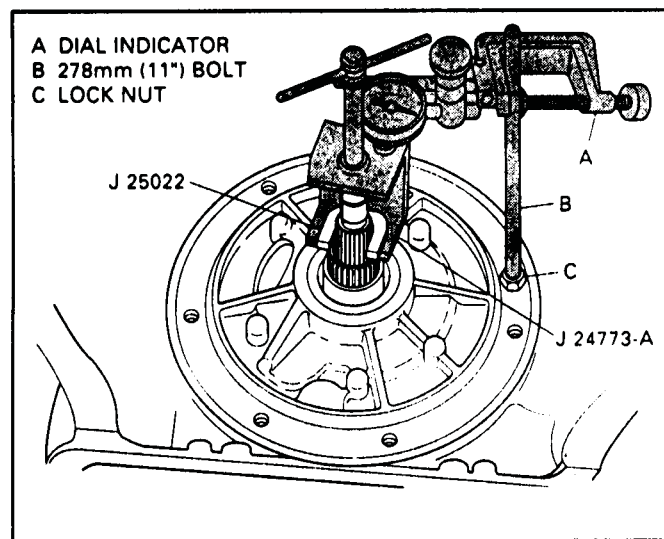

Figure 149
1. Remove a front pump bolt and install an 11" bolt and lock nut, as shown in Figure 149.
3. Install lifting tool J-24773-A and dial indicator as shown Figure 149.